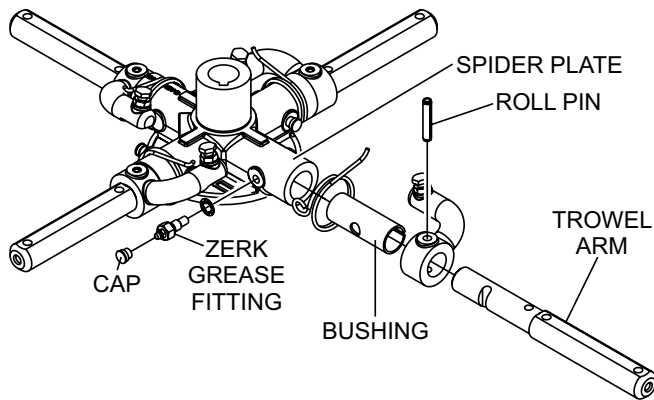

**Figure 56. Blade Removal**
2. Remove the bolts and lock washers from all the trowel arms, and then remove the blades as shown in Figure 56.